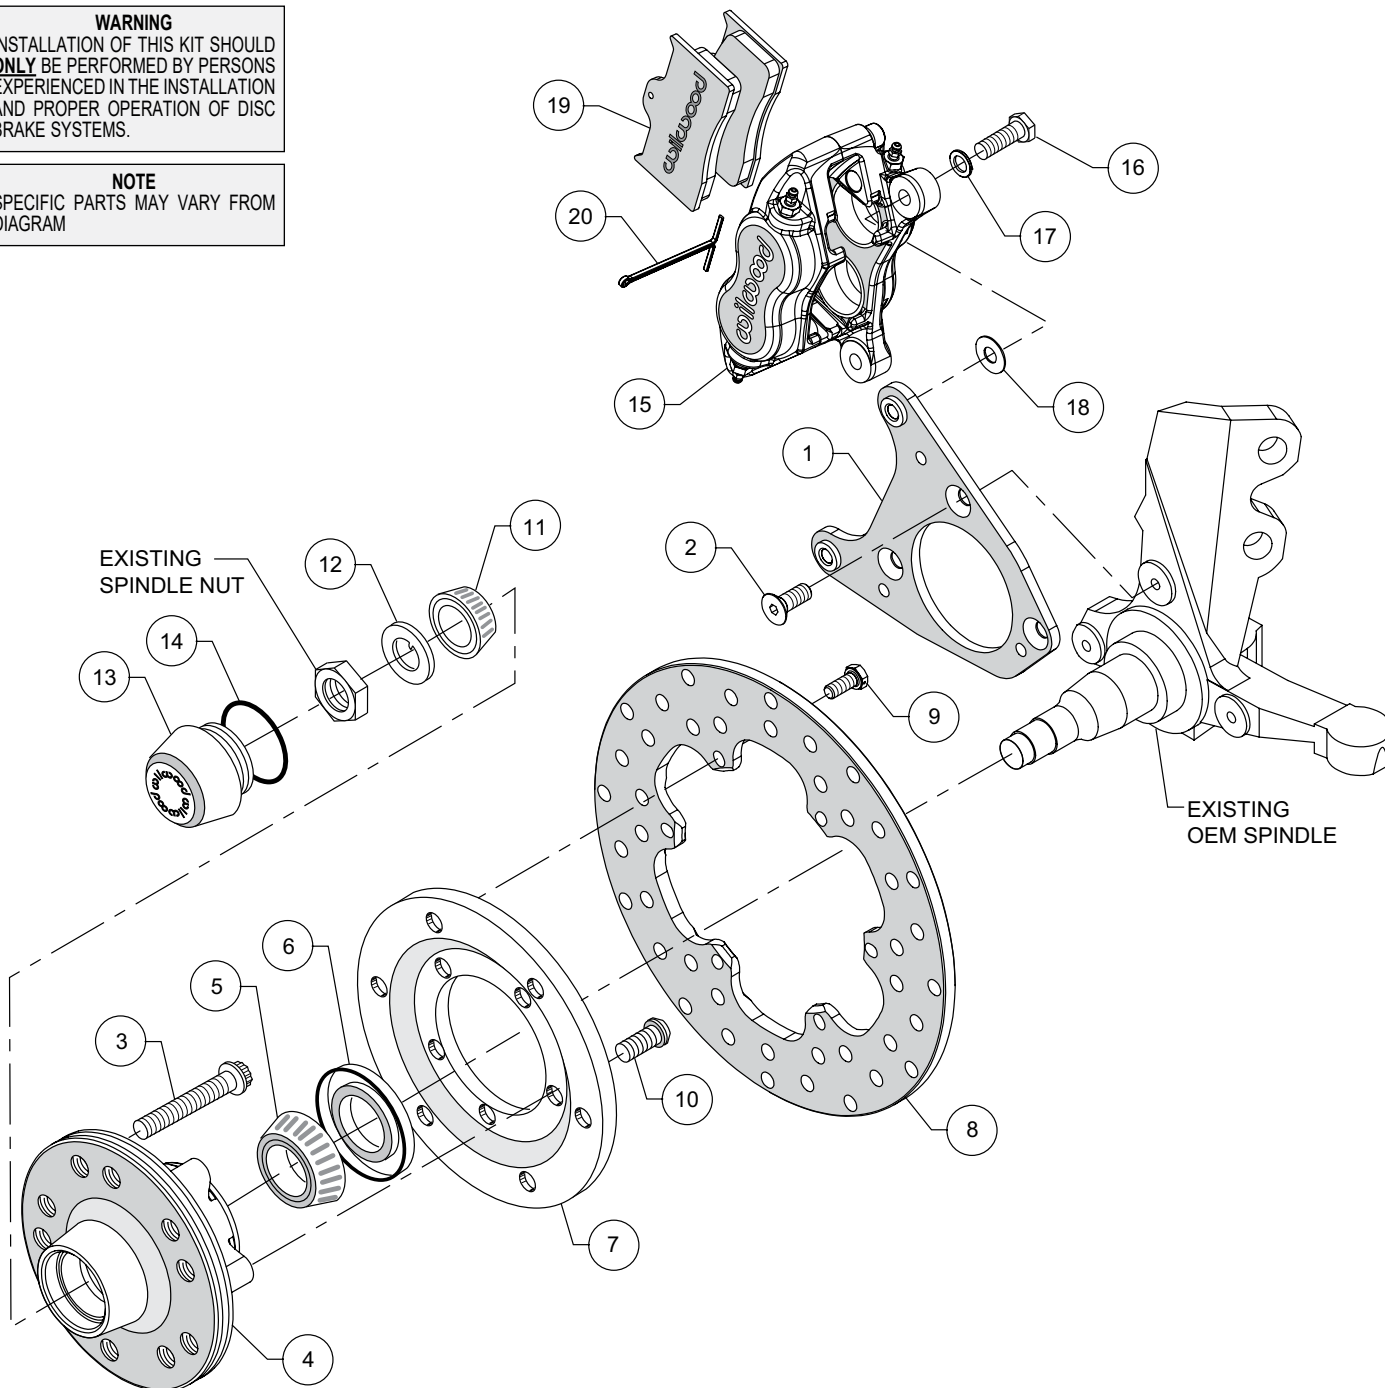
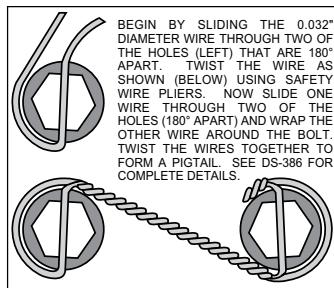
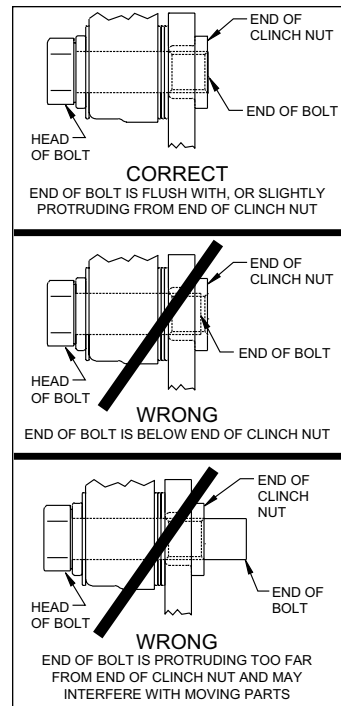

Figure 1. Typical Installation Configuration
Figure 3. Safety Wire Diagram
Figure 4. Clinch Nut Engagement Diagram
NOTE: Numbers in parenthesis refer to the parts list and Figure 1 on the preceding pages.
CAUTION: All mounting bolts must fully engage clinch nuts. Be sure to check that all bolts are either flush or protruding through flanged side of clinch nut after shimming Figure 4.
- Orient the caliper mounting bracket (1) as shown in Figure 1 and Photo 2. Attach using bolts (2), Figure 1. Temporarily tighten the mounting bolts. Ensure that the flanged heads of the clinch nuts in the bracket are facing outboard, Photo 2. **NOTE:** The bracket must fit squarely against the mounting points on the spindle. Inspect for interference from casting irregularities, machining ridges, burrs, etc. Remove bolts one at a time, apply red *Loctite*® 271 to threads and torque to 40 ft-lbs.
- Install wheel studs (3) into the hub (4), Photo 3. Torque to 77 ft-lb. **NOTE:** There are two five lug patterns in the hub (5 x 4.50 and 5 x 4.75). Ensure the correct hub stud pattern is being used to fit the wheel application.
- Pack the large inner bearing cone (5) with high temperature disc brake bearing grease (available from your local auto parts store) and install into the backside of the hub (4), Photo 4.
- Install the grease seal (6) by pressing into the backside of the hub (4), flush with the end of the hub, Photo 4.
- Orient the rotor (8) and the rotor adapter (7) as shown in Figure 1 and Photo 5. Attach the rotor to the adapter using bolts (9). Apply red *Loctite*® 271 to the bolt threads and torque to 25 ft-lb using a criss-cross pattern. Safety wire bolts using standard 0.032 inch diameter stainless steel safety wire as shown in Figure 3. Refer to Wilwood's data sheet DS-386 (available at www.wilwood.com/Pdf/DataSheets/ds386.pdf) for complete safety wire installation instructions.
- Mount the adapter/rotor assembly (7 and 8) to the hub (4) using bolts (10), as shown in Figure 1 and Photo 6. Using an alternating sequence, apply red *Loctite*® 271 to the threads and torque to 45 ft-lb.
- Pack the small outer bearing cone (11) with high temperature disc brake bearing grease and install into hub (4). Slide the hub/rotor assembly onto the spindle. Secure using spindle washer (12) and OEM spindle nut, Photo 7. Adjust bearings per OEM specifications. Install saved OEM nut lock (if any) and a new cotter pin (not included).
- Screw dust cap (13) into hub (4), Photo 8. Friction created by the o-ring (14) on the dust cap keeps it from unscrewing. **NOTE:** *The O.D. of the existing OEM spindle washer may be larger than the I.D. of the dust cap not allowing it to seat against the hub face. Therefore, use the spindle washer (12) supplied with the kit instead of the OEM washer.*
- NOTE:** *Please reference the caution statement at the beginning of the assembly instructions.* Mount the caliper (15) onto the caliper mounting bracket (1) using bolts (16) and washers (17), as shown in Figure 1. Initially place one .035" thick shim (18) on each bolt between the caliper and the bracket, Photo 9. Temporarily tighten the mounting bolts and view the rotor (8) through the top opening of the caliper. The rotor should be centered in the caliper, Photo 10. If not, adjust by adding or subtracting shims (18) between the bracket and the caliper. Always use the same amount of shims on each of the two mounting bolts. **NOTE:** *The end of each bolt must be flush with or slightly protruding from the head of the clinch nut, as shown in Figure 4.* If necessary place spare shims (18) between washer (17) and caliper mounting ear to achieve the proper clinch nut engagement. Once the caliper alignment and clinch nut engagement are correct, remove the bolts one at a time, apply red *Loctite®* 271 to bolt threads, and torque to 40 ft-lb. For an added measure of security, the bolts may be safety wired using standard 0.032 inch diameter stainless steel safety wire as shown in Figure 3. Refer to Wilwood's data sheet DS-386 (available at www.wilwood.com/Pdf/DataSheets/ds386.pdf) for complete safety wire installation instructions.
- Install the disc brake pads (19) into the caliper, with the friction material facing the rotor (8), Photo 11, and secure in place using cotter pin (20), Photo 12.